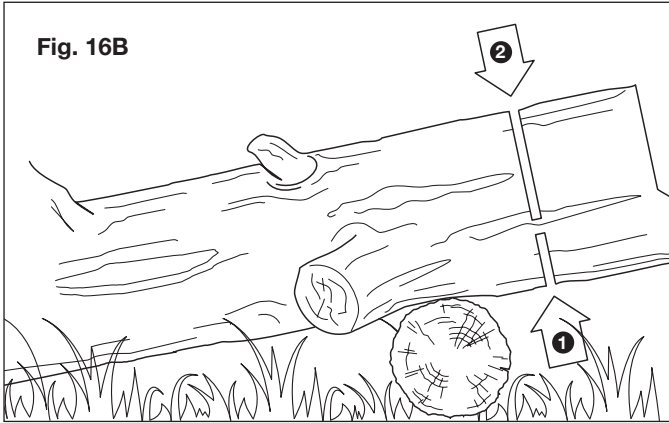

Fig. 16B
- When the log is supported on one end (Fig. 16B), cut 1/3 the diameter from the underside (underbuck). Then make the finishing cut by overbucking to meet the first cut.